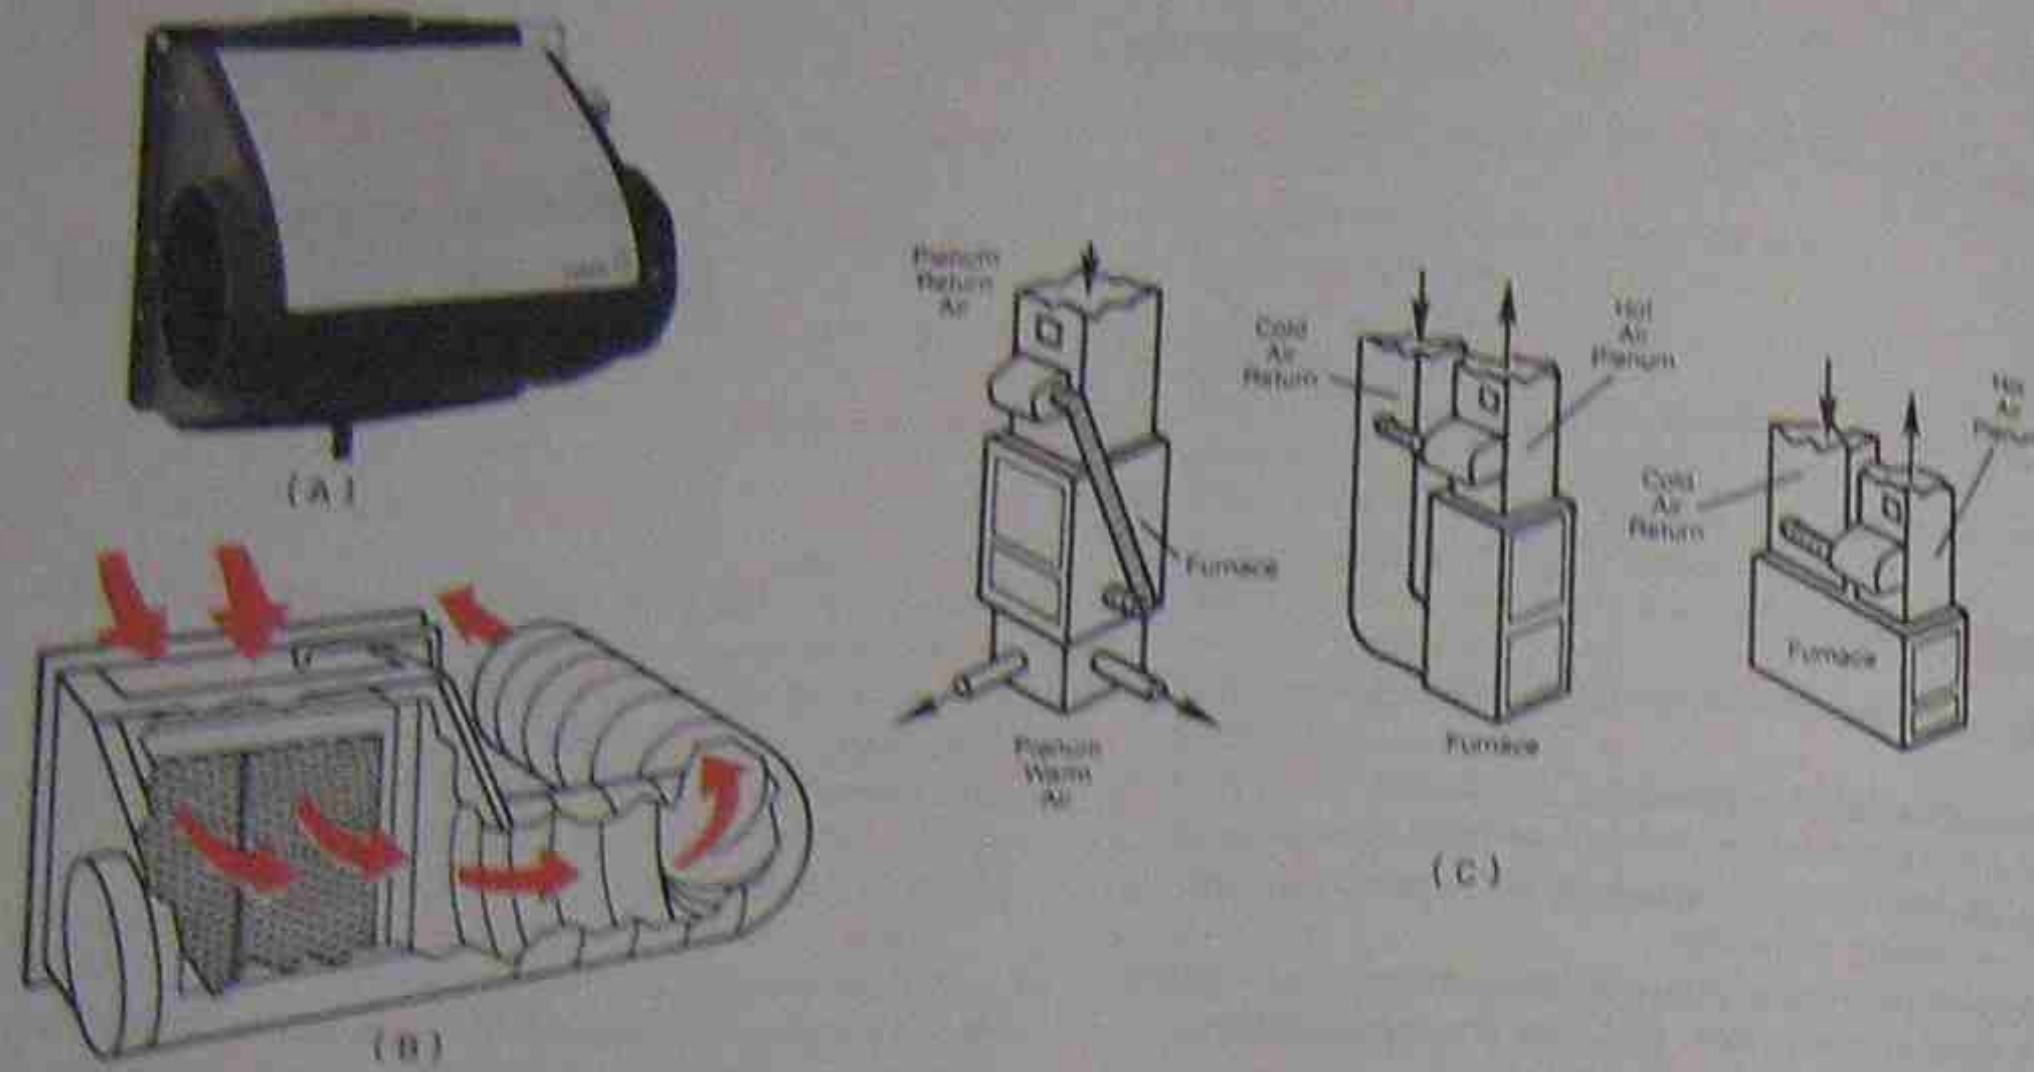

Figure 36-1. (A) Bypass humidifier. (B) Cutaway showing airflow from plenum through media to the return. (C) Typical installations. Courtesy AutoFlo Company.
**Bypass Humidifier.** The bypass humidifier relies on the difference in pressure between the supply (warm) side of the furnace and the return (cold) side. They may be mounted on either the supply plenum or duct or the cold-air return plenum or duct. Piping must be run from the plenum or duct where it is mounted to the other plenum or duct. If mounted in the supply duct, it must be piped to the cold-air return. Figures 36-1, 36-2. The difference in pressure between the two plenums draws some air through the humidifier to the supply duct and is distributed throughout the house.